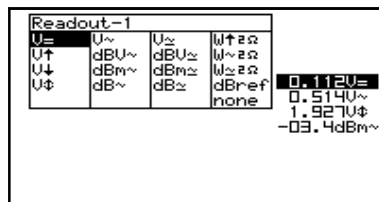

Fig 21
2. Press the cursorkeys to highlight the desired readout function for meter 1 readout. (Fig. 21)